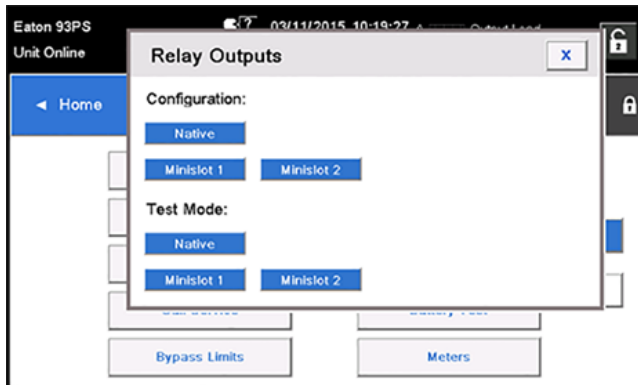

Figure 34. Options for relay outputs configuration
10. You can test the relays by selecting any of the options in the test mode (see Figure 34).